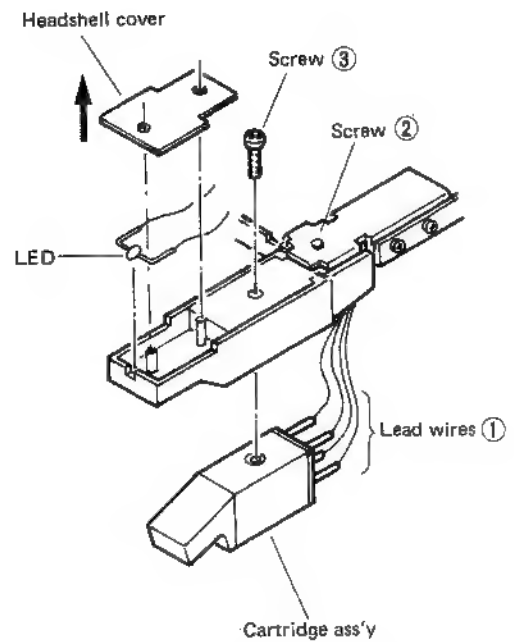

Fig. 8
### 5-(5) Replacement of cartridge (Fig. 8)
2. Remove lead wires ①.
3. Remove the securing screw ② of the headshell.
4. Remove screw ③, then replace the cartridge.
### 5-(6) Replacement of PLAY indicator (LED) (Fig. 8)